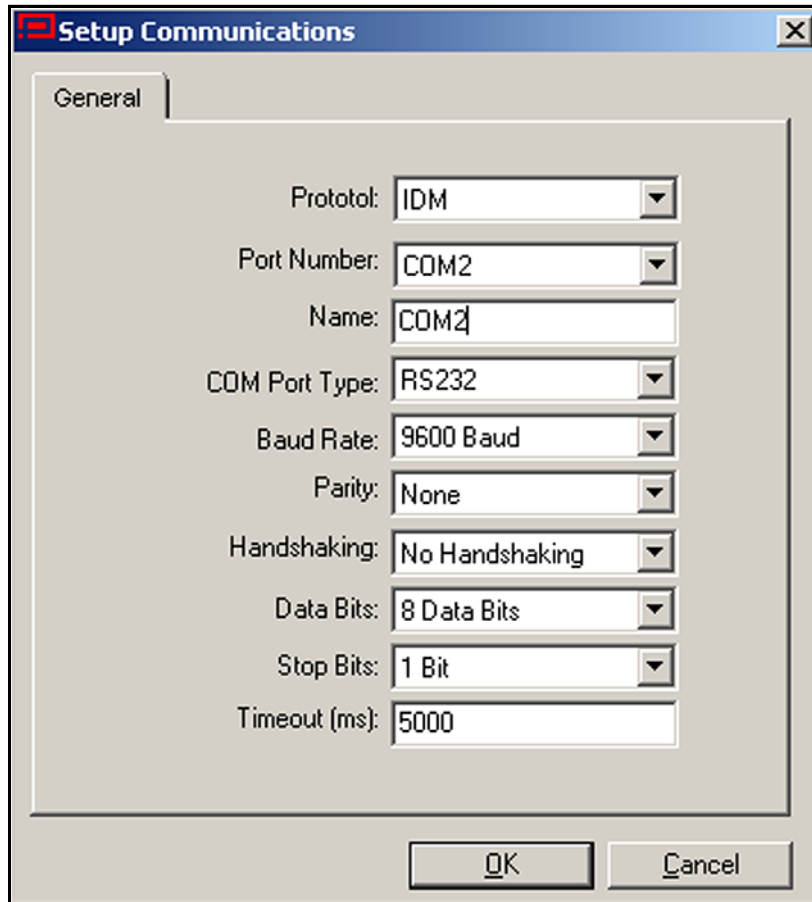

Figure 19: Setup Communications Screen
4. Click on the “*Communications Port*” option to select it. The *Setup Communications* screen appears similar to *Figure 19* below.